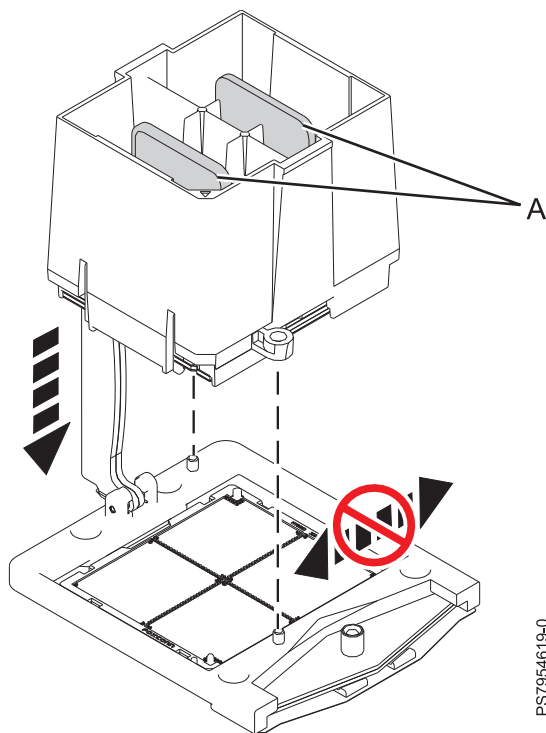

Figure 42. Installing the microprocessor
- b. After the tool and microprocessor holes and guide pins are properly aligned, squeeze and hold the two tool tabs (**A**) together until a firm stop is reached. Then lift the tool off the microprocessor, as shown in Figure 42 on page 79.